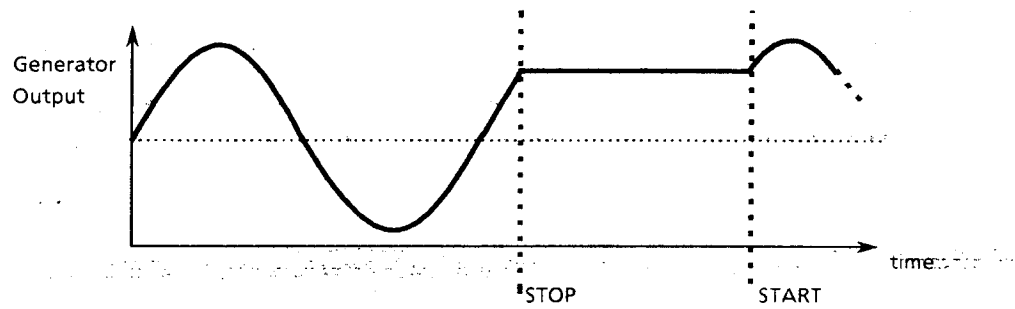

Fig 5.2 [freeze] stops the Generator at the existing output level
The action the Generator takes when stopped via the front panel (GEN STOP key), rear panel (contact closure) or remote (SG) command. See Figs. 5.2 and 5.3.